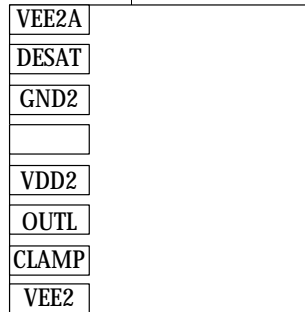

Figure 24. Bipolar Power Supply
- └ In bipolar power supply the driver is typically supplied with a positive voltage of 15 V at VDD2 and negative voltage 5 V at VEE2 (Figure 24). Negative power supply prevents a dynamic turn on throughout the internal IGBT input capacitance.